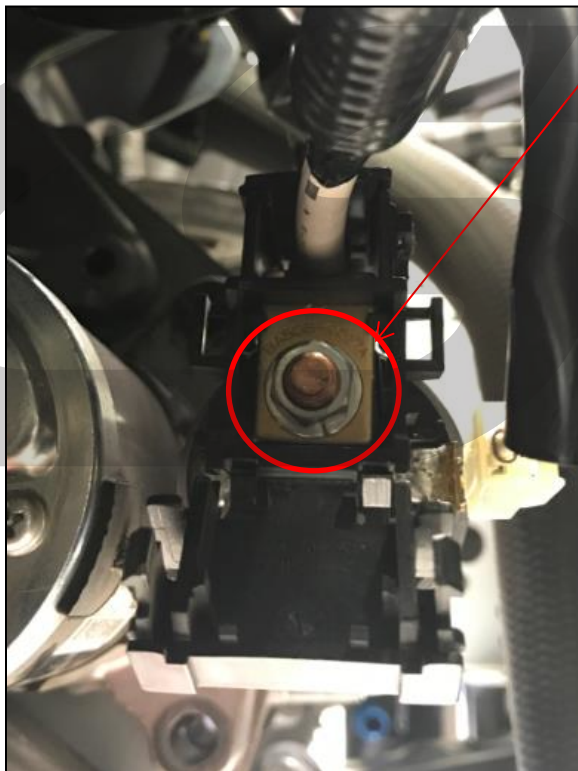

Figure 4c
- d) Use a 12mm socket to remove the power wire nut **circle in red** in **Figure 4c**. Remove the power wire from the starter.